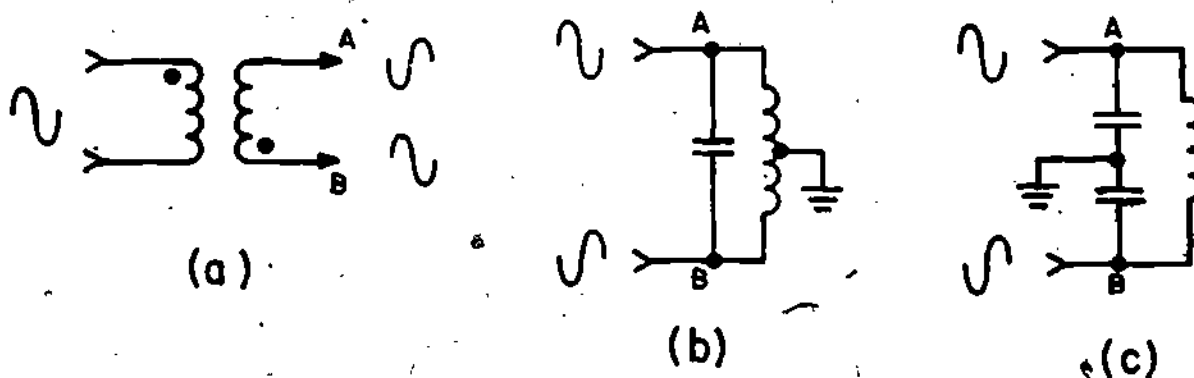

Figure 3
- ③. The amplifier section of an oscillator circuit is used to provide the necessary gain and feedback voltage to maintain tank oscillation. In order to sustain oscillations, the feedback must be of the proper phase. This means that the feedback voltage must be shifted 180° before it can be applied to the amplifier. Circuits which provide 180° phase shifts are common in LC oscillators. Some of the techniques which are used for obtaining this phase shift are depicted in Figure 3.
Notice that transformers may be used to provide a 180° phase shift in the oscillator circuit. As you examine Figure 3 notice that phasing dots are used to indicate points with identical phase in relation to time. Note specifically the schematic shown in Figure 3(a). With the input indicated, the sine wave associated with the primary of the transformer produces an identical phase signal at the dot, or B terminal, of the transformer secondary. This phase shift technique is commonly used in the Armstrong type oscillator which you studied in Module 22. The schematic shown in Figure 3(b), shows a tank circuit with a tapped inductance. This method is often used to provide out-of-phase voltages from a tuned tank. In this instance, Terminal A is 180° out-of-phase with respect to terminal B. This is one of the techniques that is often used with a Hartley type oscillator. The schematic in Figure 3(c), shows a tuned tank circuit which uses two capacitors in order to obtain out-of-phase voltages. In this case terminal A is 180° out-of-phase with respect to terminal B. The action is the same as indicated in the center schematic with the tapped inductance. The main difference is that a tapped inductance is not required. Recall that this technique was used with the Colpitts oscillator which you studied in Lesson 4 of Module 22.